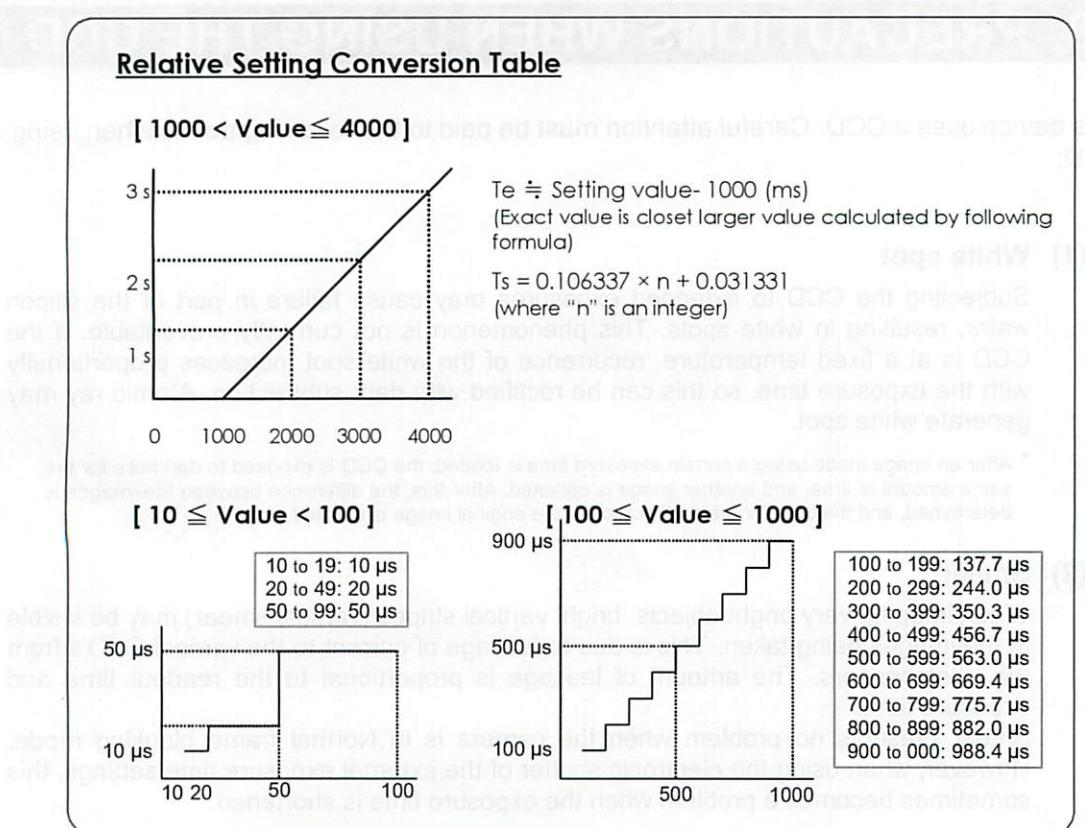

Fig. 9-1
- Please see Figure 9-1 for the relationship between setting values and actual exposure times.
(2) Absolute shutter value configuration